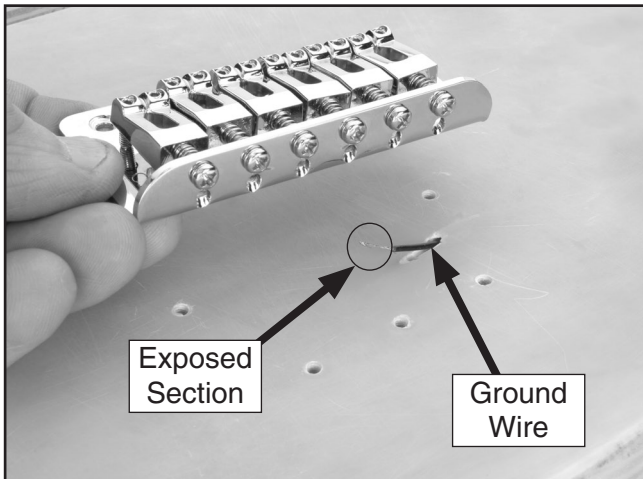

Figure 18. Bridge placement.
1. Make sure the end of the grounding wire (**Figure 18**) protrudes through the angled hole (drilled earlier) to make contact with the bridge.